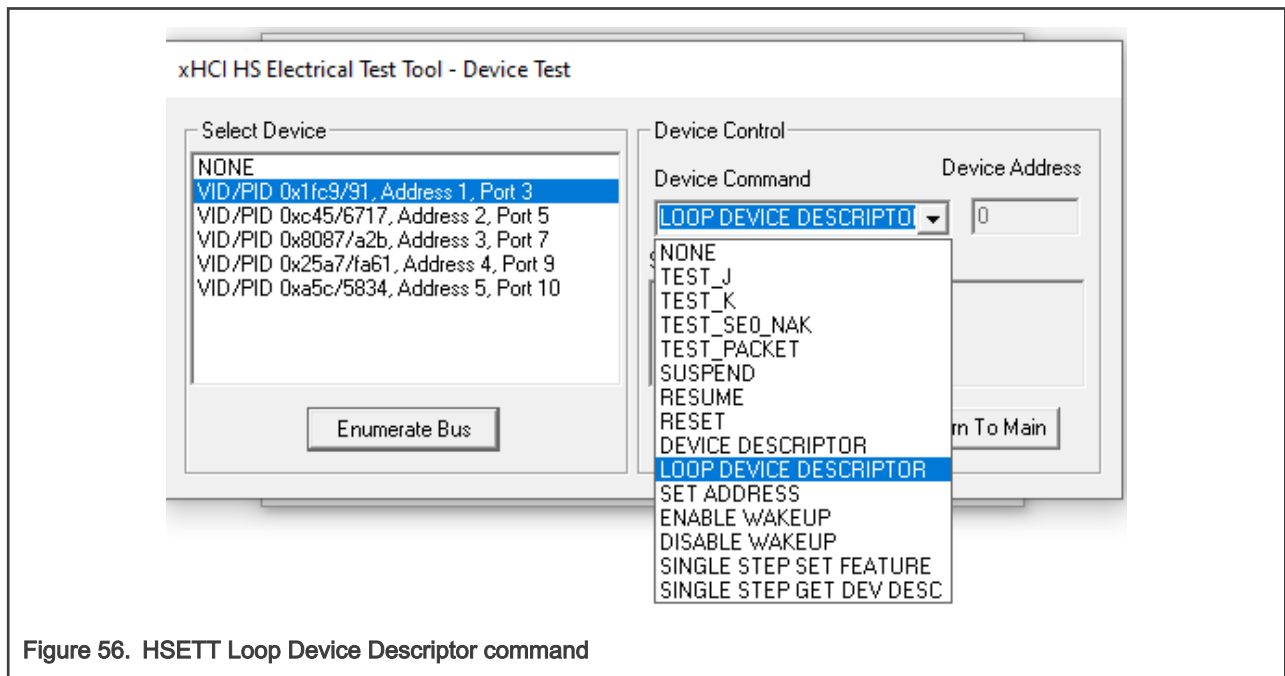

Figure 56. HSETT Loop Device Descriptor command
- Similar to the High-Speed Signal Quality test, on the Device Test menu of the HS electrical test tool software, click **Enumerate Bus** once. Select the device under test in the device enumeration list, select **LOOP DEVICE DESCRIPTOR** from the Device Command drop-down menu, and click **Execute** once, as shown in Figure 56.